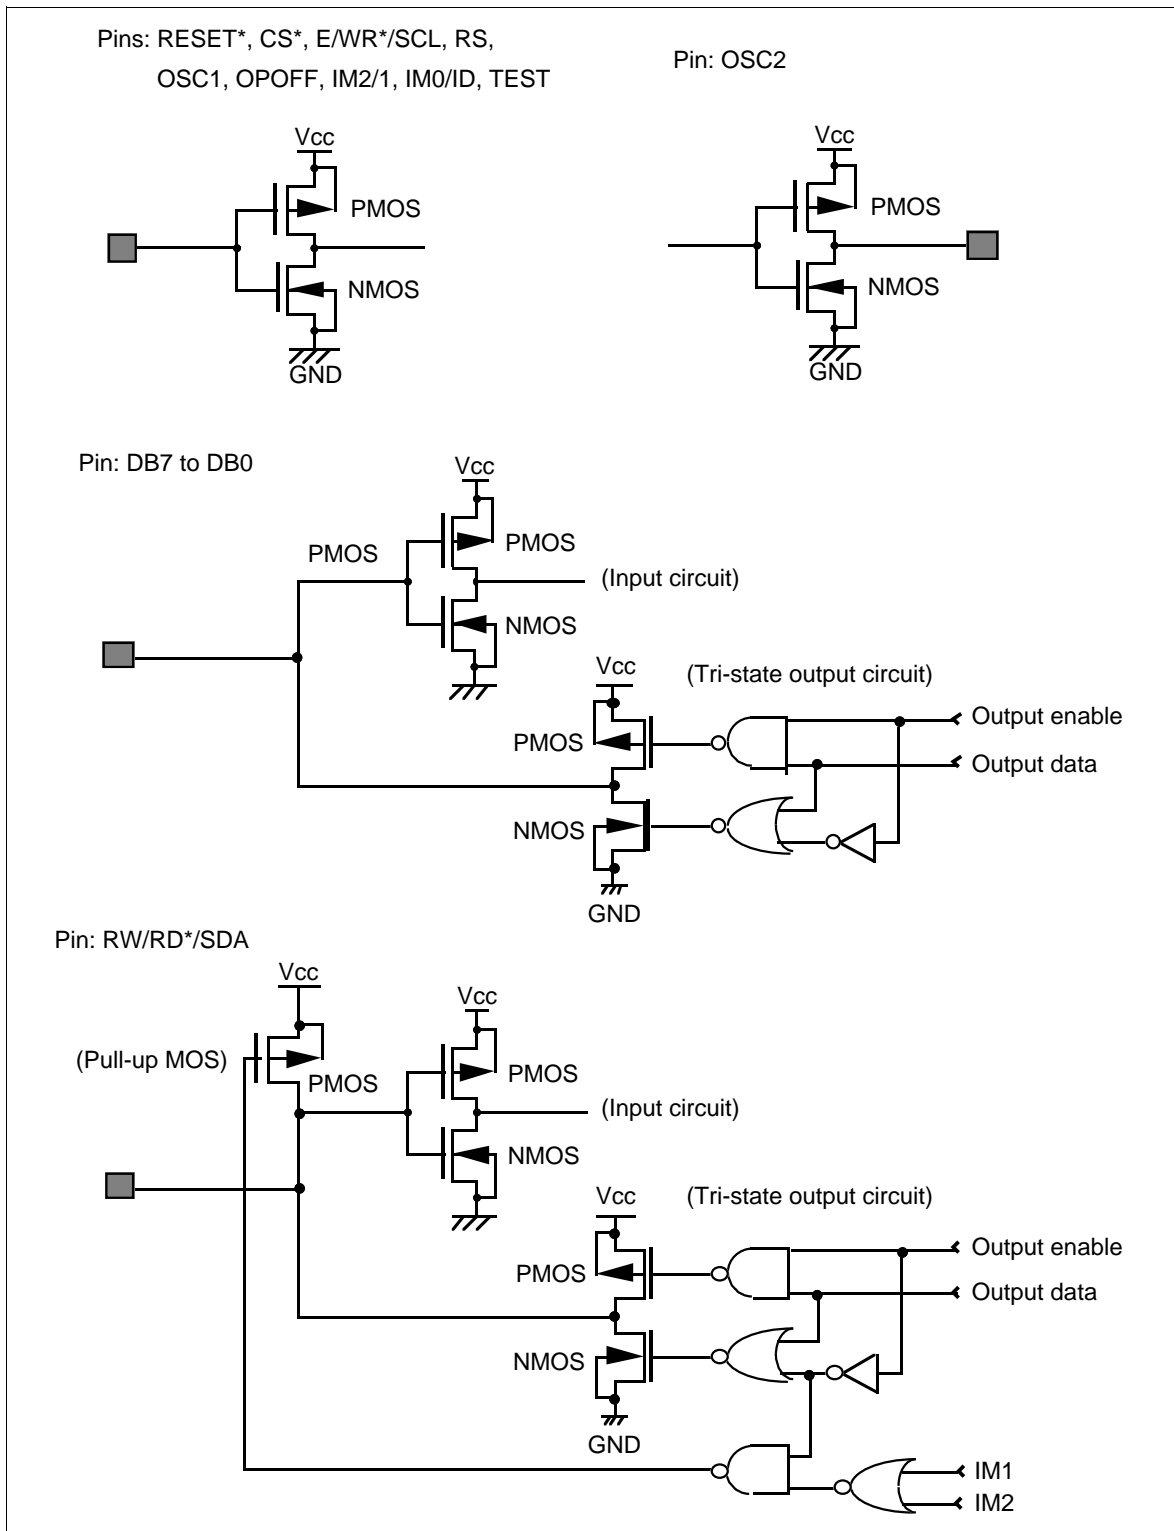

Figure 42 I/O Pin Configuration
2. The following three circuits are I/O pin configurations (figure 42).